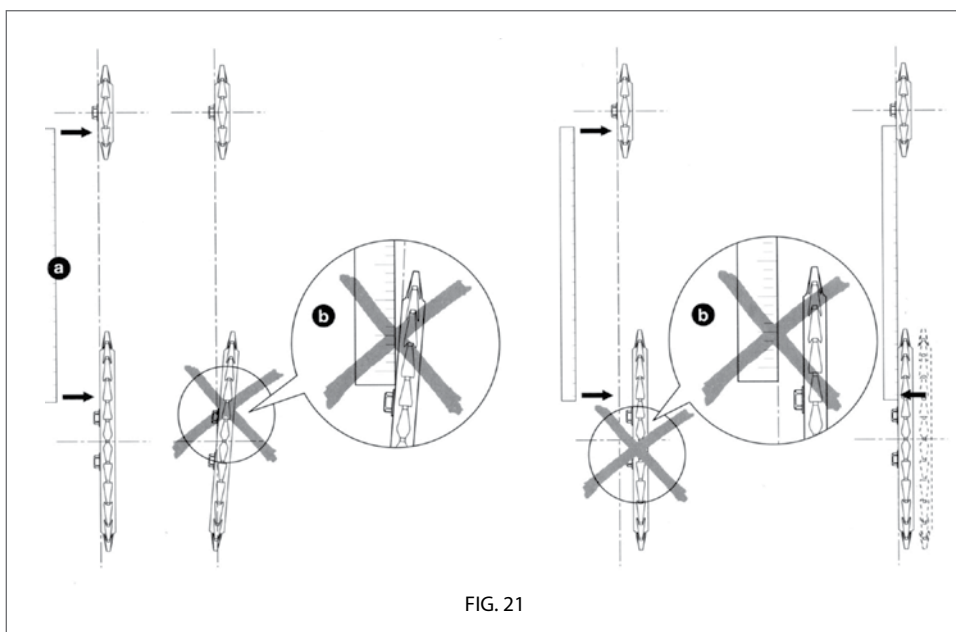

FIG. 21
2. Check that the gap between the bar and the front sprocket is lower 1mm/0,04" (fig. 21);